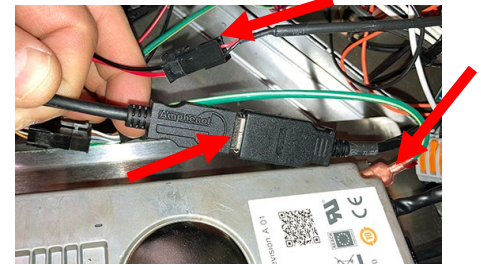

Figure 21
49. Disconnect the ground cable and the speaker cable and the USB cable (if applicable) (see Figure 21).